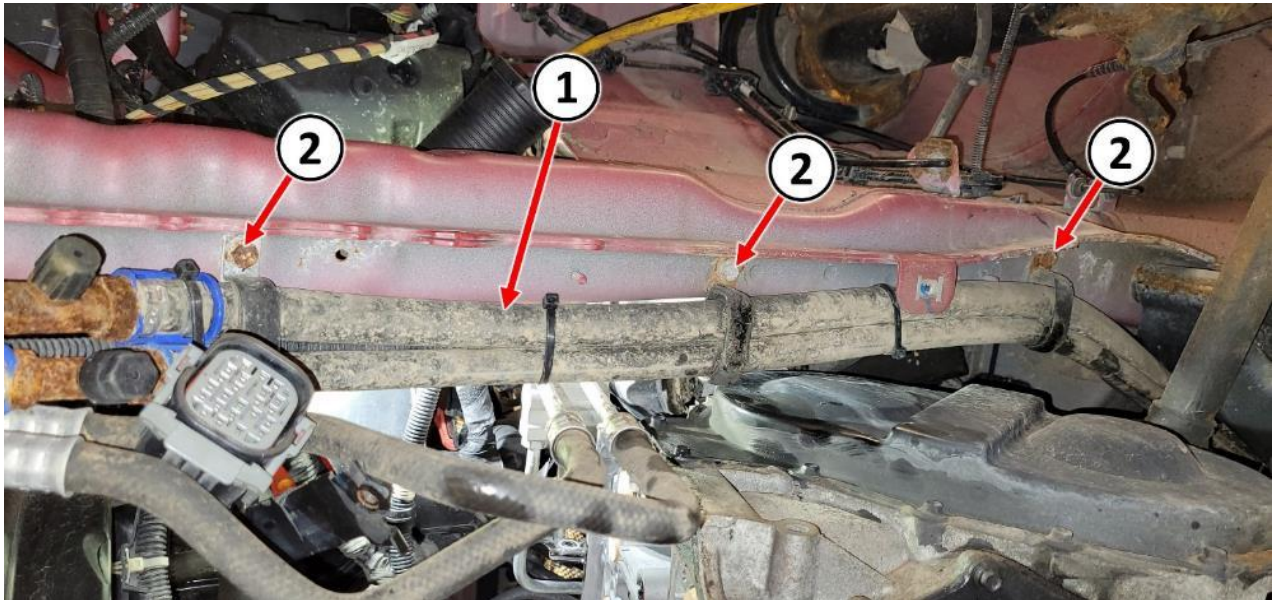

**Figure 17 – Rear HVAC Refrigerant Hoses**
27. If the vehicle is equipped with rear air conditioning, remove the screws (2) securing the refrigerant hoses (1) to the frame rail. Then position the hoses (1) aside for transfer gear cover access (Figure 17).